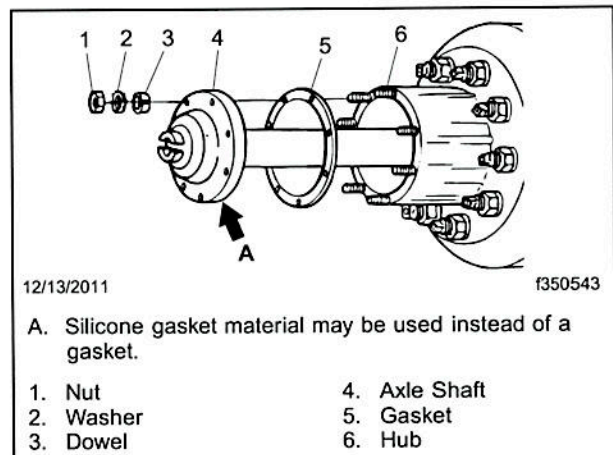

Fig. 8, Axle Shaft Installation
16. Install the gasket, if used, and the axle shaft into the housing. The gasket and the flange of the axle shaft must fit flat against the wheel hub. See Fig. 8